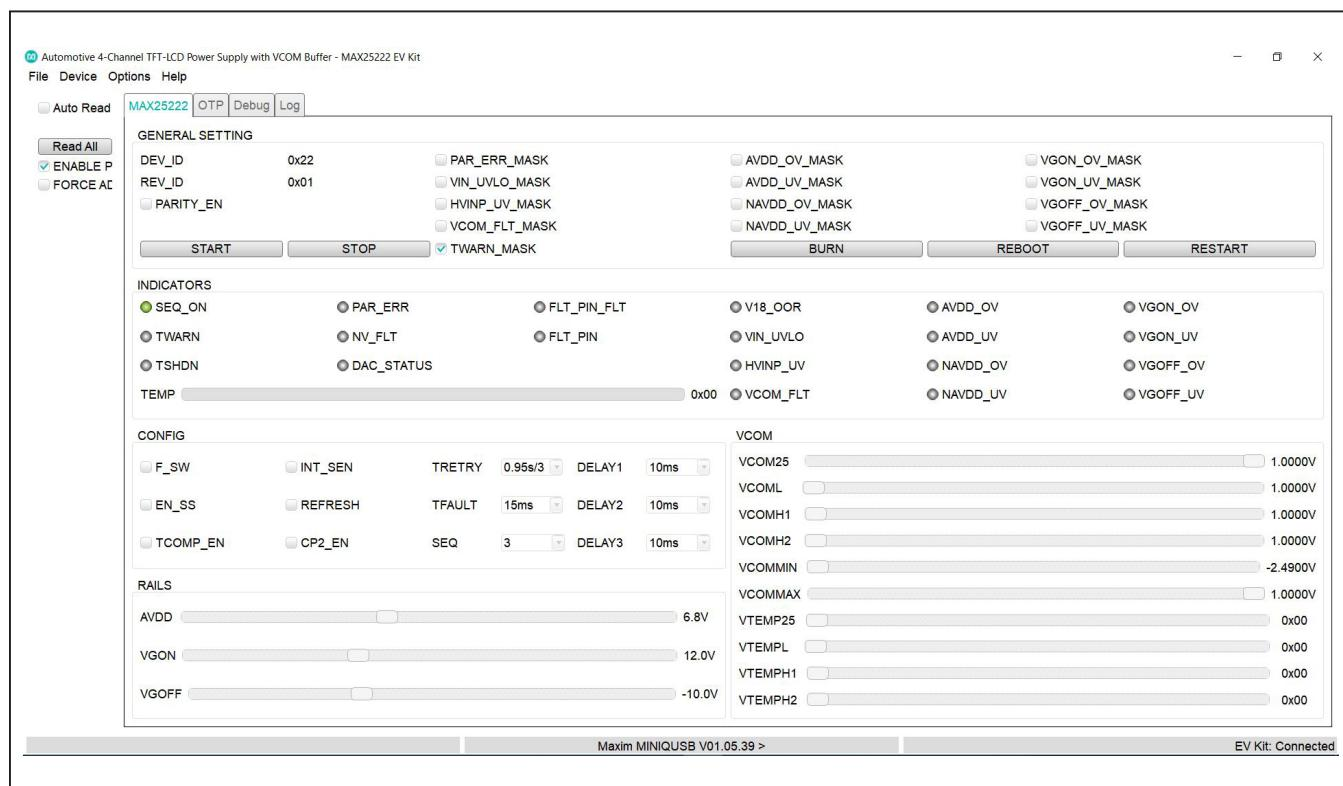

Figure 1. MAX25222 Evaluation Kit Software (GUI)
- From the EV kit software toolbar, select **Device** → **Scan for Address**. The GUI scans the I2C bus for available slave addresses on the bus and selects the first one (in this case, the MAX25222 I2C address with J5 settings: 52H). Press **OK** once the MAX25222 I2C address has been found. Figure 1, is a screen capture of MAX25222 evaluation kit software (GUI).